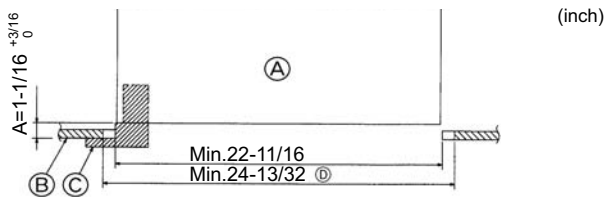

Fig. 7-2
①	Grille	1	650 × 650 , 25-19/32 × 25-19/32
②	Screw with washer	4	M5 × 0.8 × 25, M5 × 1/32 × 31/32
③	Gauge	1
④	Fastener	2
⑤	Band	2
7.2. Preparing to attach the grille (Fig. 7-2)